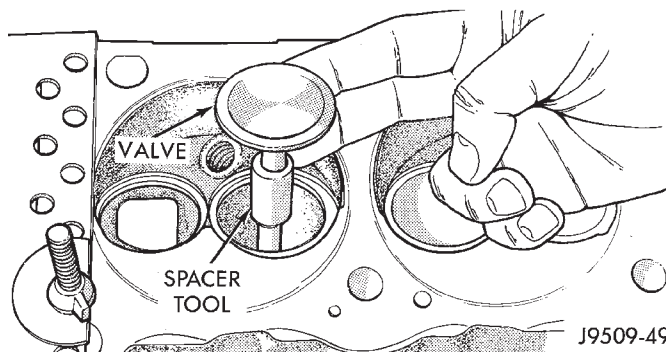

Fig. 51 Positioning Valve with Tool C-3973
- (1) Install Valve Guide Sleeve Tool C-3973 over valve stem and install valve (Fig. 51). The special sleeve places the valve at the correct height for checking with a dial indicator.